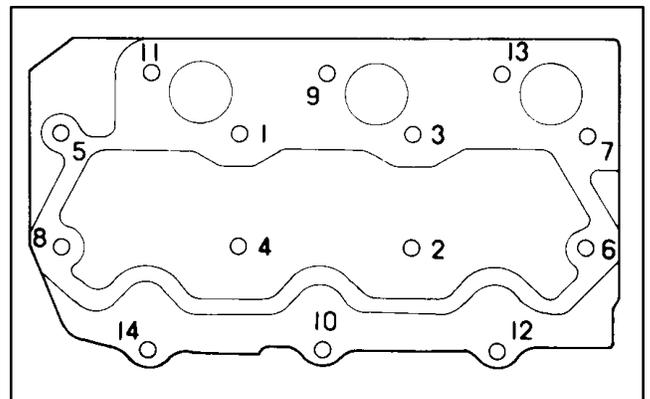

Figure 43
2. Using sequence in figure 43, torque head bolts to 25 to 29 ft/lb.